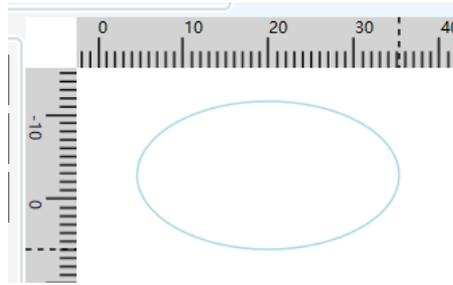

Fig. 4.3.4b Ellipse (Circle) Drawing
① Left-click to enter the drawing mode, and then left-click at any position on the canvas to start drawing an ellipse (circle) as shown in Fig. 4.3.4b. Move the mouse to a suitable position and click again to complete the drawing of the ellipse (circle). Move the mouse and click again to start drawing the second ellipse (circle).